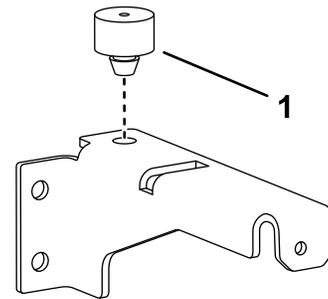

Figure 8
2. Install the bumper to the left pod bracket (Figure 8).
4. Install the bumper to the left pod bracket (Figure 8).